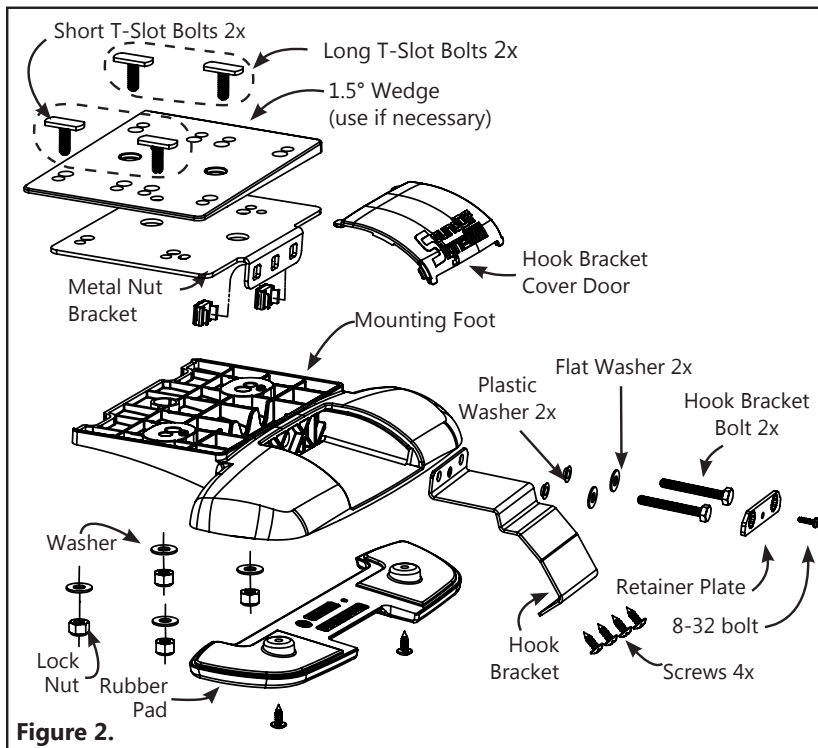

Figure 2.
1. Attach the supplied screws to the mounting foot to secure the rubber pad (shown in **Fig. 2**).